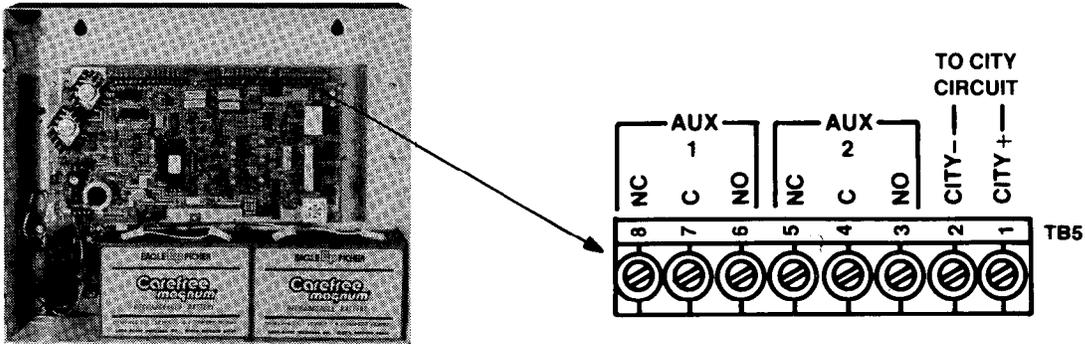

FIGURE 19
12. If using a city circuit (municipal monitoring facility), connect it as shown in Figure 19.